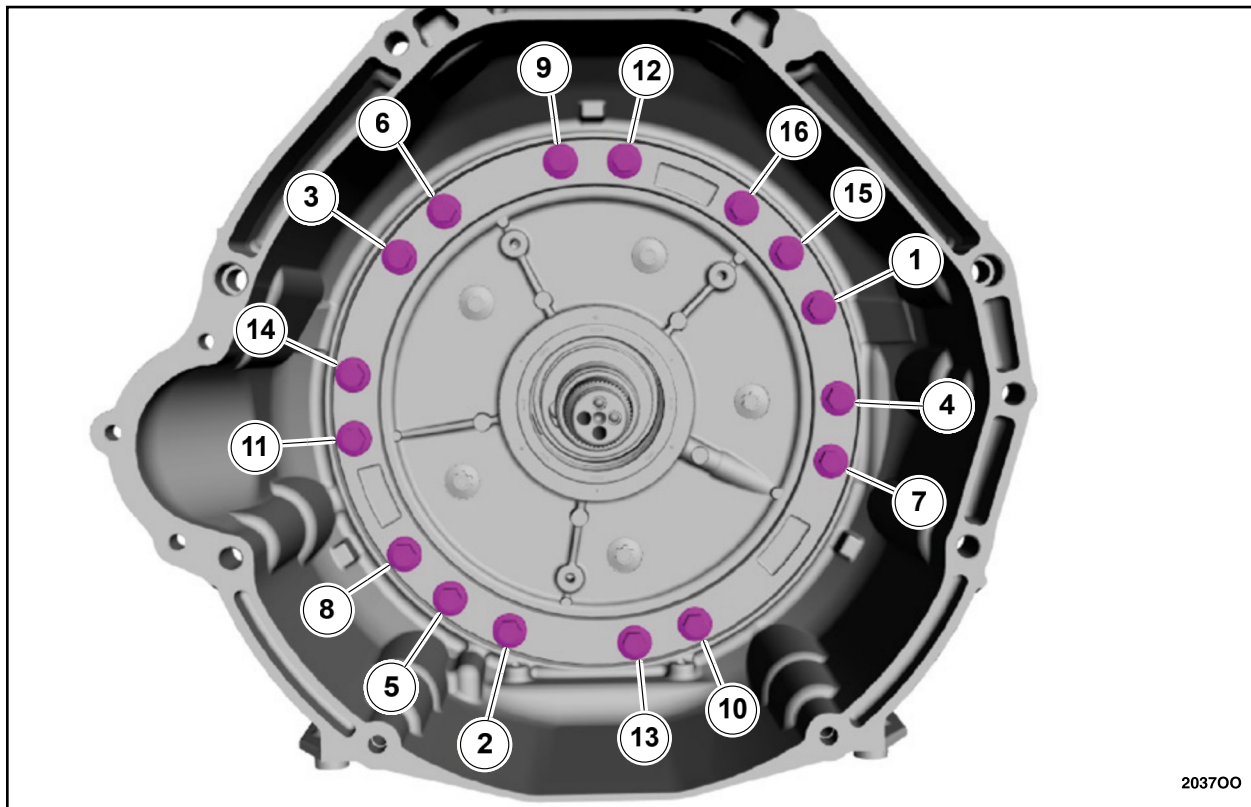

FIGURE 33
37. Tighten the bolts in the sequence shown. See Figure 33.